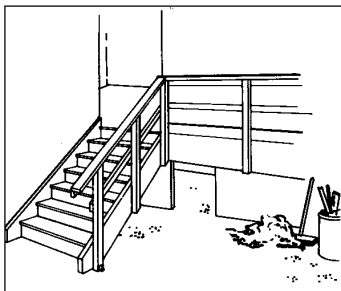

Figure 8
- work and travel areas kept tidy, well-lit, and ventilated (Figure 8)